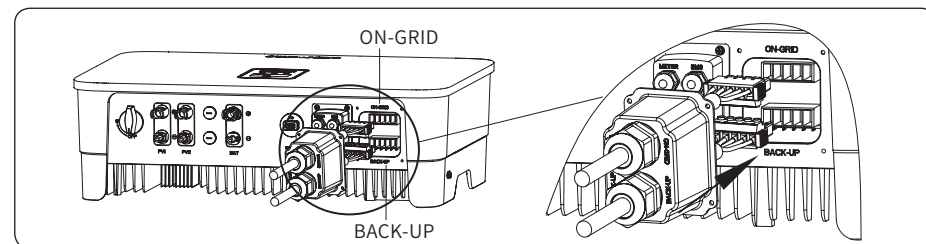

Figure 4-26
5) Insert the assembled AC connector to the corresponding AC port in the inverter, as shown in Figure 4-26: